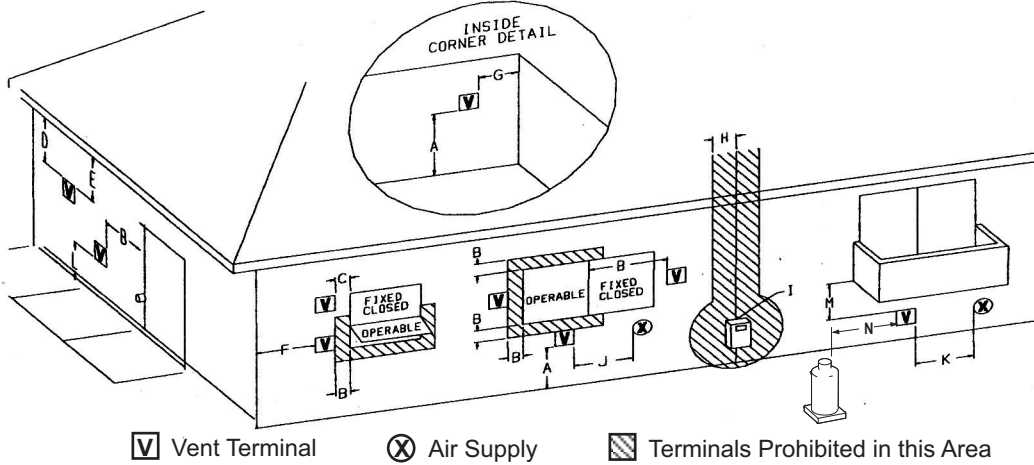

Figure 12. Vent Terminal Clearances - ANSI Z21.88-2014, CSA 2.33-2014, and National Fuel Gas Code.
- All horizontal terminations must comply with the clearance specifications to adjacent structures as indicated in fig. 12.